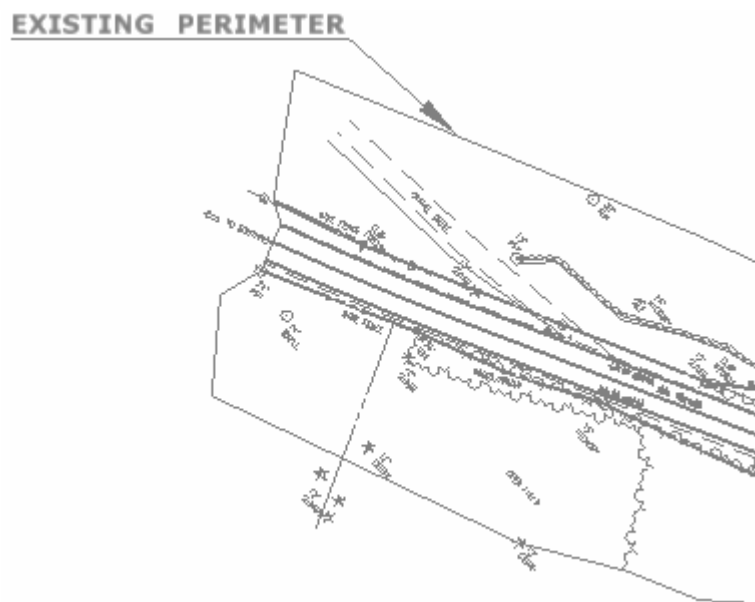

Figure 2-2 MicroStation View of InRoads Generated Perimeter
- D. In the View Perimeter Box for Surface: select existing. Then click the **Apply**. In Figure 2-2, notice the line surrounding the roadway, this is the limit of the existing surface.